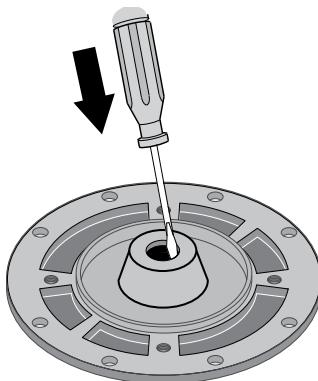

Figure 18 – Tap Out Seal
5. Place seal plate half face down on flat surface and tap out stationary half of seal (Figure 18).